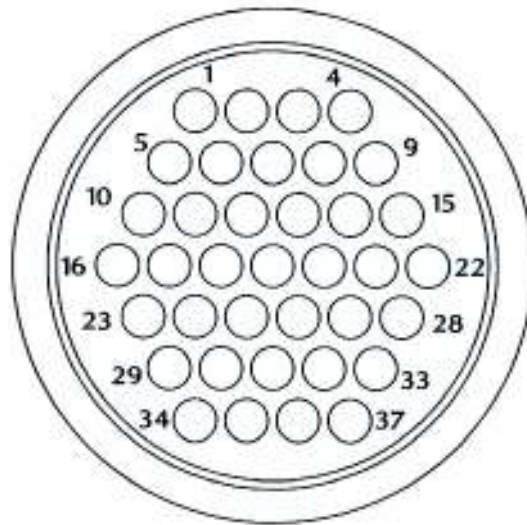

Figure 51. Leybold isolated interface option – wiring side of isolated I/O connector plug
- Figure 51 - Leybold isolated interface option – wiring side of isolated I/O connector plug